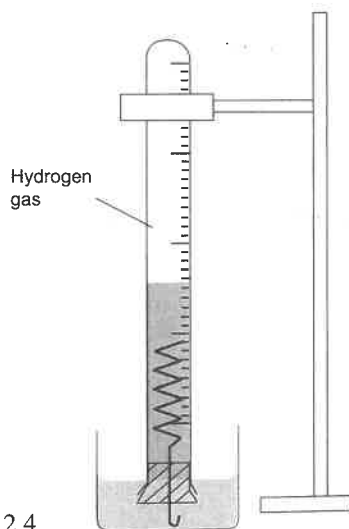

Figure 2.4
7. When the reaction is complete, as shown in Figure 2.4, allow a few minutes for the solution and hydrogen to come to room temperature. Tap the tube gently to dislodge any gas bubbles that are still attached to the coil or to the sides of the gas measuring tube.